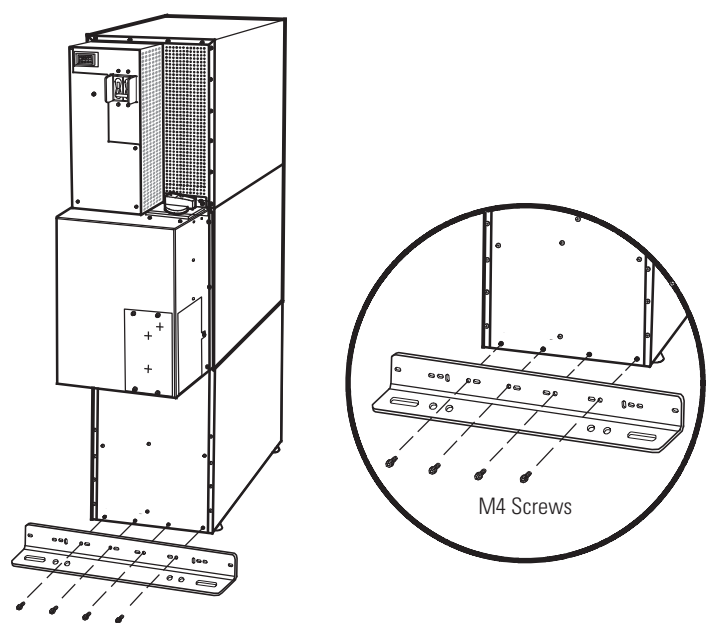

Figure 41. Stabilizing Bracket with One Cabinet
- For one cabinet, see Figure 41.